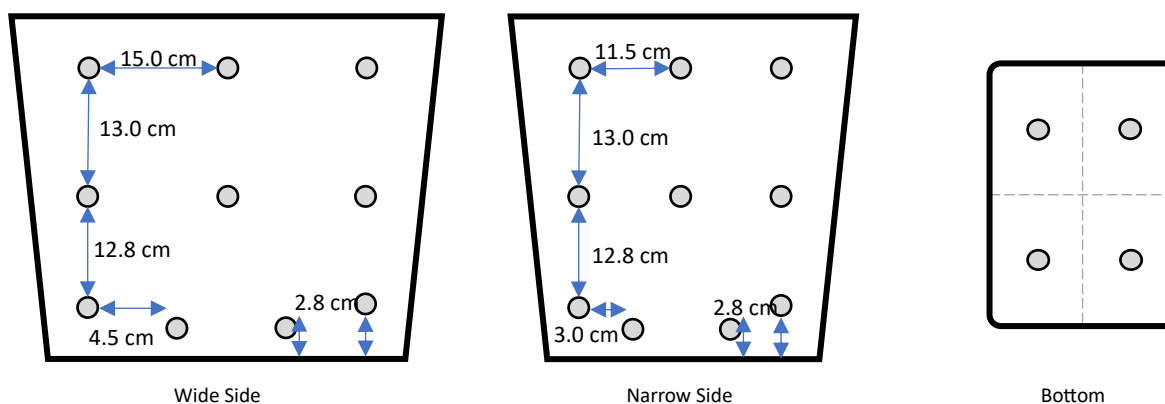

Figure 1. Approximate location of holes drilled in an ammonia emissions chamber.
- 1) Drill *ten* holes into each side of the container using a 3/8" drill bit following the schematic in *Figure 1*. Note that the measurements are approximate
- 2) If bins do not already have holes in their bottom, drill *four* in approximately the middle of each quadrant using the 3/8" drill bit (see *Figure 1*)